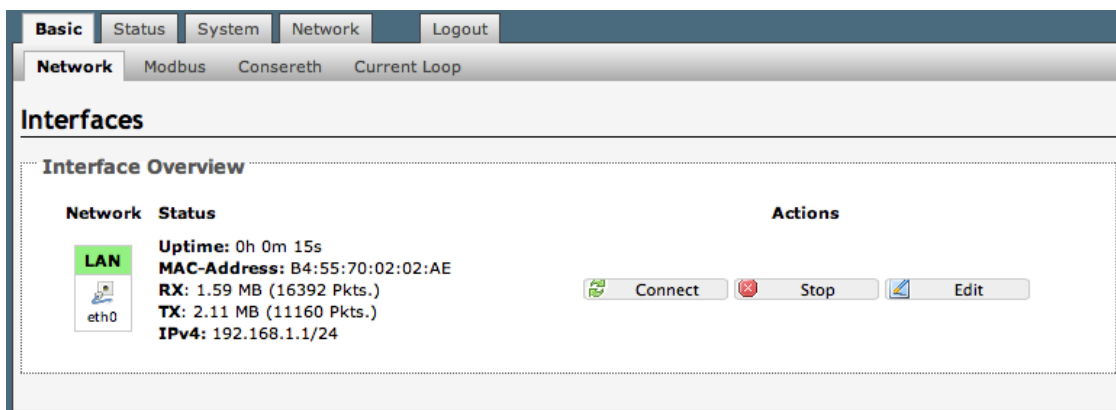
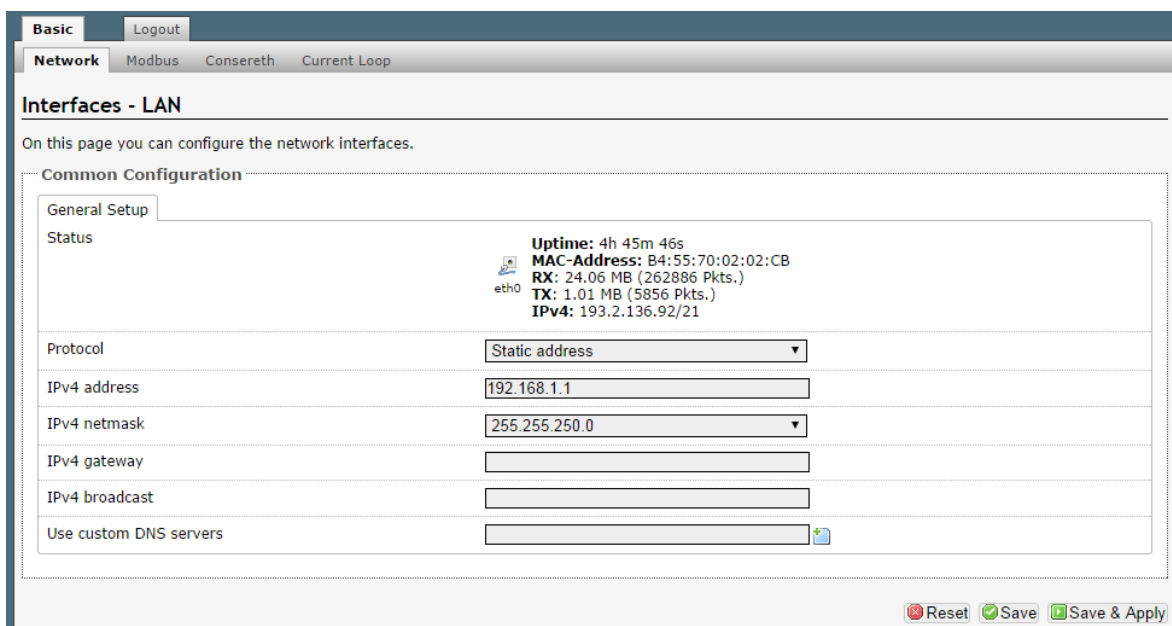

Figure 15: Page with configuration tabs
Figure 17: LAN configuration
3. After successful login, page with configuration tabs is shown (see Figure 15). Click on tabs to view or change (**Edit**) any configuration.
To change IP network settings under **Network** tab, press **Edit** button (see Figure 15 and Figure 17).